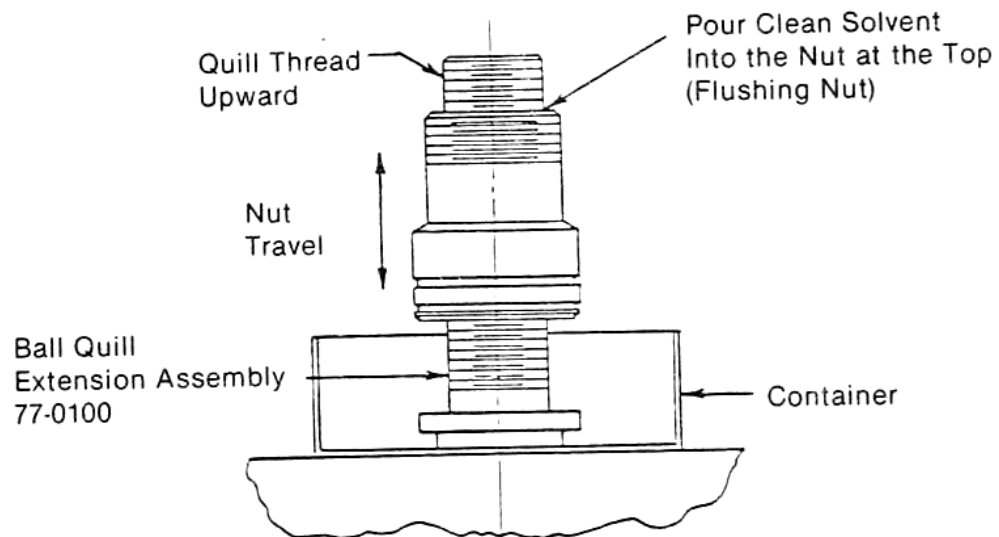

Figure 11-6 Ball Quill and Nut Flushing
3. Set the ball quill extension assembly in an upright position, with the ball threads facing upward and the mounting flange downward, in a container (Figure 11-6).